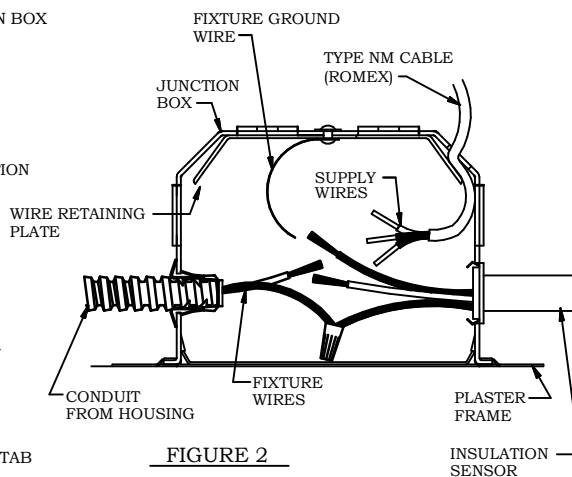

FIGURE 2
- 3.- IF OTHER THAN TYPE NM CABLE (ROMEX) IS TO BE USED, REMOVE ONE LARGE KNOCKOUT AT DESIRED LOCATION ON TOP OR SIDES OF JUNCTION BOX. FASTEN APPROPRIATE UL LISTED CONNECTOR (NOT FURNISHED) WITH ELECTRICAL SUPPLY CABLE IN JUNCTION BOX (SEE FIGURE 2).